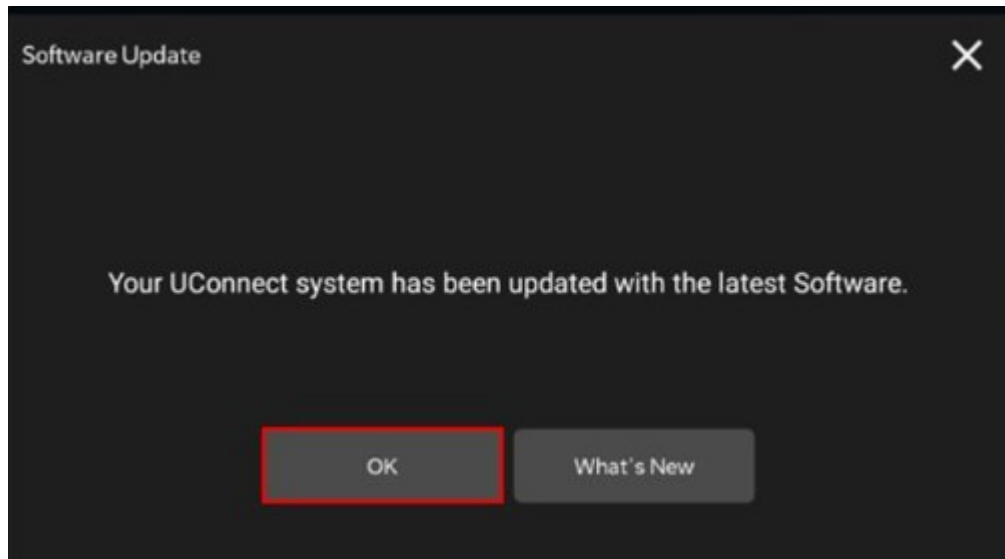

Fig. 6
17. Press “OK” to continue (Fig. 6) .